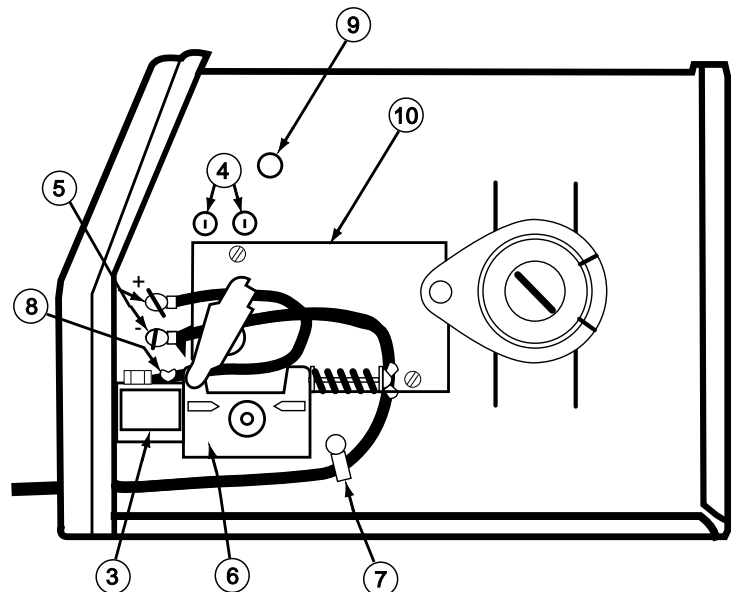

FIGURE A.2
Refer to Figure A.2.
2. Pass the end of the work cable that has the terminal lug with the smaller hole through the Work Cable Access Hole (1) in the case front.
3. Route the cable under the feedplate (6) and in front of the Wire Feed Motor.
4. **For GMAW Only:** Refer to Figure A.2. As delivered, the machine is connected for positive electrode polarity. This is the appropriate configuration for the GMAW (MIG) process. To complete installation, use the provided wing nut to connect the work cable's terminal lug to the negative (-) output terminal (5) located above the Wire Feed Gearbox (6). Make sure that both wing nuts are tight.
1. Refer to Figures A.2 and A.4. Unplug the machine or turn power switch to the OFF "O" position.